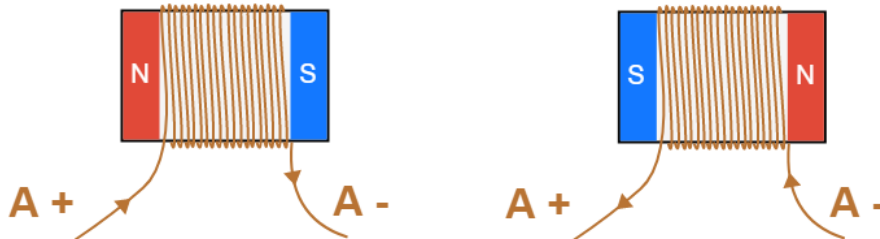
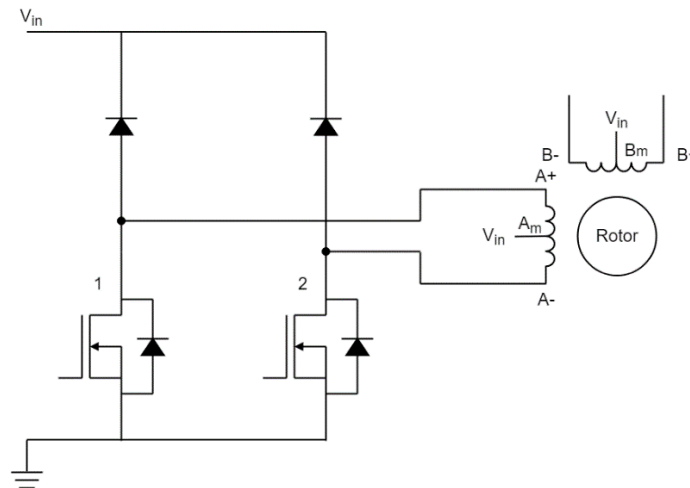
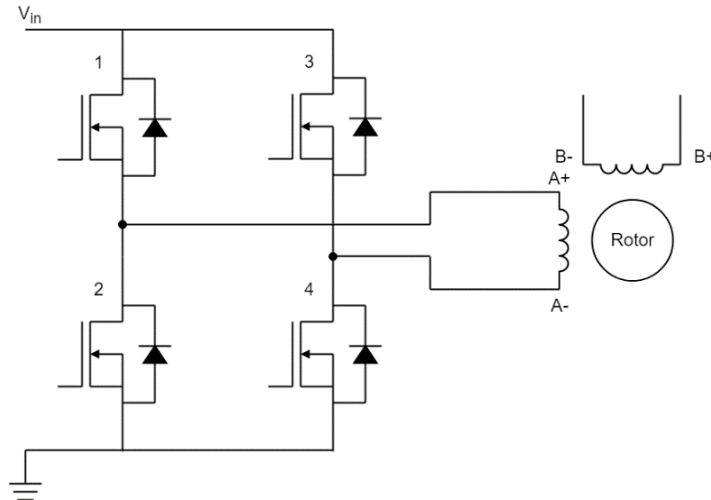

Figure 8: Direction of the Magnetic Field based on the Direction of the Coil Current
Figure 9: Unipolar Stepper Motor Driving Circuit
Figure 10: Bipolar Stepper Motor Driving Circuit
Another feature of the motor that also affects control is the arrangement of the stator coils that determine how the current direction is changed. To achieve the motion of the rotor, it is necessary not only to energize the coils, but also to control the direction of the current, which determines the direction of the magnetic field generated by the coil itself (see Figure 8).
In unipolar stepper motors, one of the leads is connected to the central point of the coil (see Figure 9). This allows to control the direction of the current using relatively simple circuit and components. The central lead (AM) is connected to the input voltage V_{in} (see Figure 8). If MOSFET 1 is active, the current flows from AM to A+. If MOSFET 2 is active, current flows from AM to A-, generating a magnetic field in the opposite direction. As pointed out above, this approach allows a simpler driving circuit (only two semiconductors needed), but the drawback is that only half of the copper used in the motor is used at a time, this means that for the same current flowing in the coil, the magnetic field has half the intensity compared if all the copper were used. In addition, these motors are more difficult to construct since more leads have to be available as motor inputs.
In bipolar stepper motors, each coil has only two leads available, and to control the direction it is necessary to use an H-bridge (see Figure 10). As shown in Figure 8, if MOSFETs 1 and 4 are active, the current flows from A+ to A-, while if MOSFETs 2 and 3 are active, current flows from A- to A+, generating a magnetic field in the opposite direction. This solution requires a more complex driving circuit, but allows the motor to achieve the maximum torque for the amount of copper that is used.